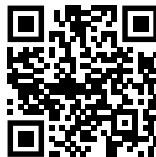

Fig. 62
- ▶ Åpne Liebherr SmartMonitoring Dashboard. (se Fig. 62)